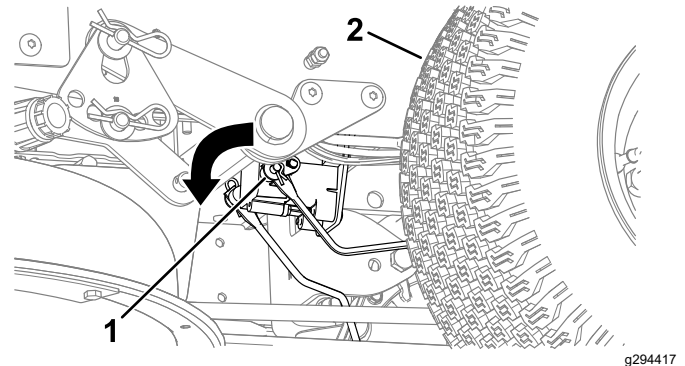

Figure 54
3. Locate the shaft on the electric brake where the brake link arms are connected (Figure 54).